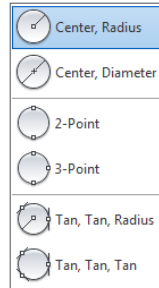

FIGURE 5.47: The Circle command's flyout menu
2. Click the down arrow next to the Circle tool, found on the Home tab > Draw panel, and look at the flyout menu, as shown in Figure 5.47.